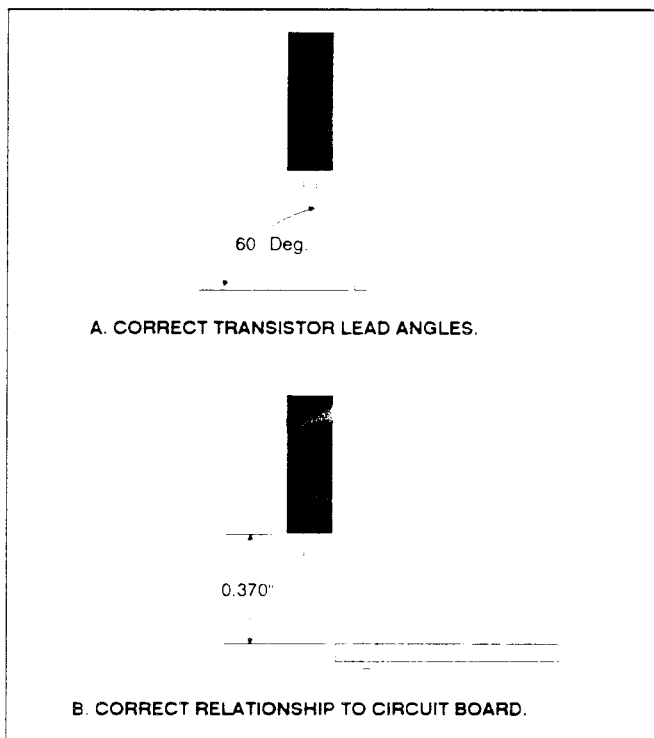

Fig. 4-1. Series Pass Transistor Replacement.
2. Carefully bend the new transistor leads according to the dimensions in Fig. 4-1.